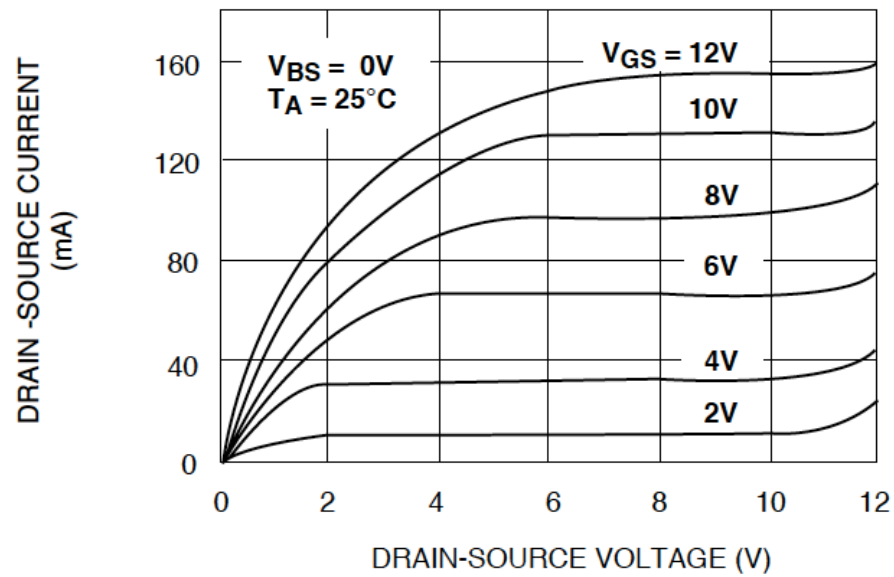

Fig. 7: (a) Ideal and (b) measured  $i_D$  versus  $v_{DS}$  characteristics of an NMOS ALD1101 transistor.
Where  $K = 200$ . When measuring  $i_D$  versus  $v_{GS}$ ,  $SW_{P1\_1}$  is OFF while the complimentary switch is ON. In this configuration, the transistor is diode-connected and  $v_{DS} = v_{GS}$ . The ideal and measured  $i_D$  versus  $v_{GS}$  characteristics of the NMOS are shown in Fig. 6. When measuring  $i_{DS}$  versus  $v_{DS}$ , switch  $SW_{P1\_1}$  is ON and subsequently the complimentary switch will be turned **OFF**. In this case the gate-to-source voltage,  $v_{GS}$ , is set using *ANALOG*, while the drain-to-source voltage,  $v_{DS}$ , is indirectly set using the input,  $V_{in}$ . The ideal and measured  $i_D$  versus  $v_{GS}$  characteristics of the NMOS are shown in Fig. 7. Note that on the breadboard, the switches will be implemented with wires.
- E4 Keep the oscilloscope in XY mode, with CH1 and CH2 probing the same nodes as part E2. With 0 V at the gate, the transistor is in cutoff and you will see zero current for all values of  $V_{DS}$ . **Slowly** increase the *ANALOG* (DC power supply) voltage gradually until you pass the threshold voltage that you measured in previous steps; the resulting curve should resemble one of the lower curves in Fig. 7. **Keep increasing the *ANALOG* up to 5 V.** Is there any observable channel length modulation?